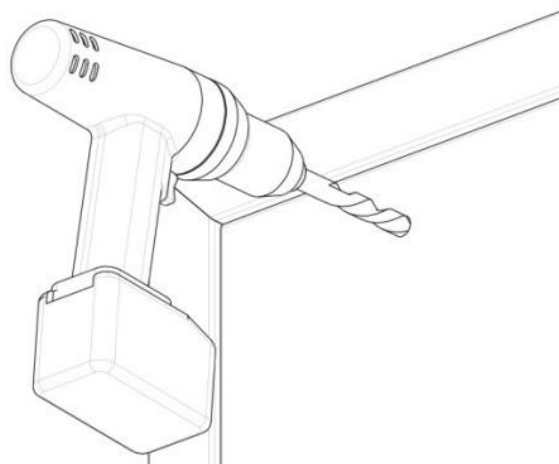

Figure 12. Drilling the Outside Door Holes
11. For a **Hollow Metal Door**, DRILL out the 3/8" diameter strike mounting hole to 1/2" diameter in the outer wall only (see Figure 12, “Drilling the Outside Door Holes”).